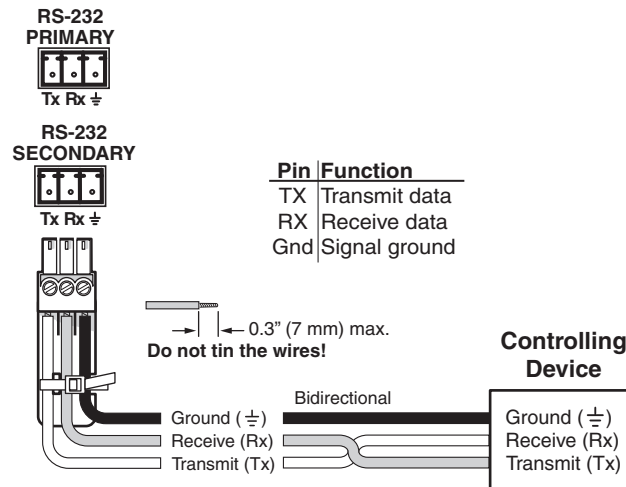

Figure 2-5 — RS-232 connector
- ⑩ **Remote connector** — Connect one or two host devices, such as computers, touch panel controls, or RS-232 capable PDAs to the switcher via these 3-pole captive screw connectors for serial RS-232 (figure 2-5). Use the supplied tie-wrap to strap the serial cable to the extended tail of the connector.